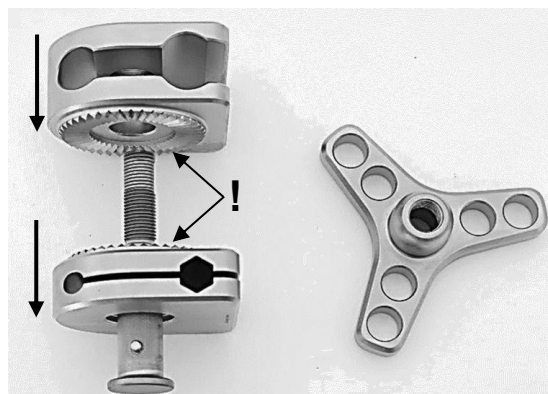

Fig. 10
As shown in Figure 10, first insert the lower clamping piece (3) and then the upper clamping piece (2) over the threaded rod (4). Please observe the following instructions!